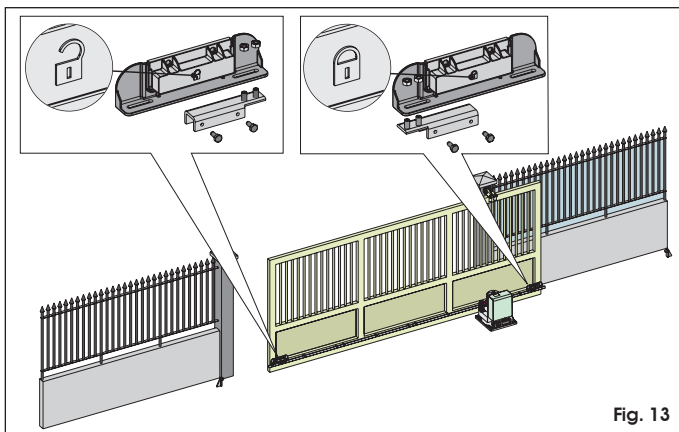

Fig. 13
The operator has a magnetic limit-switch, which commands gate motion to stop when the magnet, which is secured to the upper part of the rack, activates the sensor. The magnets supplied with the operator are specifically polarised and activate only one of the sensor's contacts: the closing or opening contact. The magnet activating the open gate contact bears an open padlock symbol, and, vice versa, the magnet activating the closed gate contact bears the closed padlock symbol (see Fig. 13).
1. Assemble the two magnets as shown in figure 13.